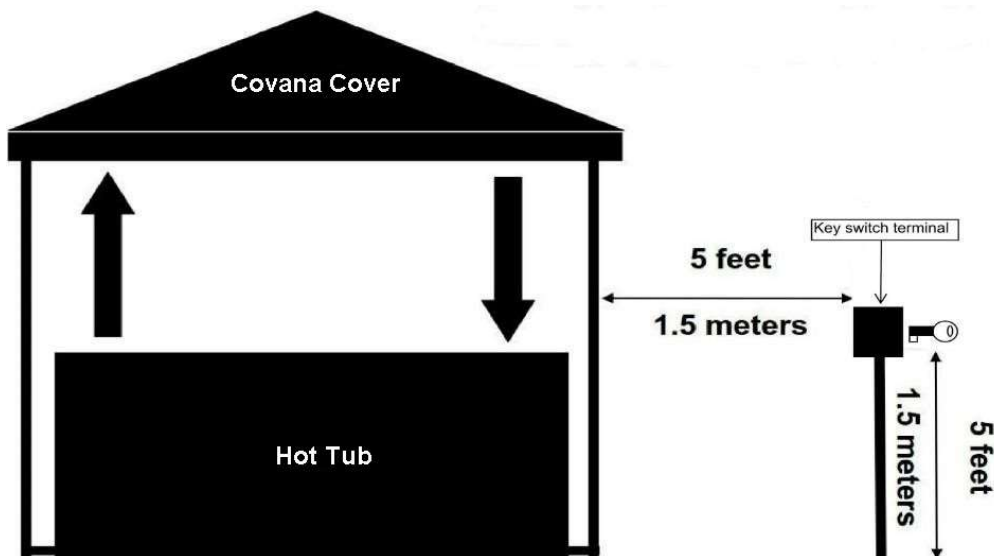

Figure 22
- ◆ The key switch must be permanently mounted and located 5 ft (1.5 m) away from the hot tub and 5 ft (1.5 m) above the deck or ground level. This ensures the user has a clear view of the COVANA cover when operating it. Furthermore, the key switch terminal should be located in a place where no water downpour or debris could fall on it. (Figure 22)